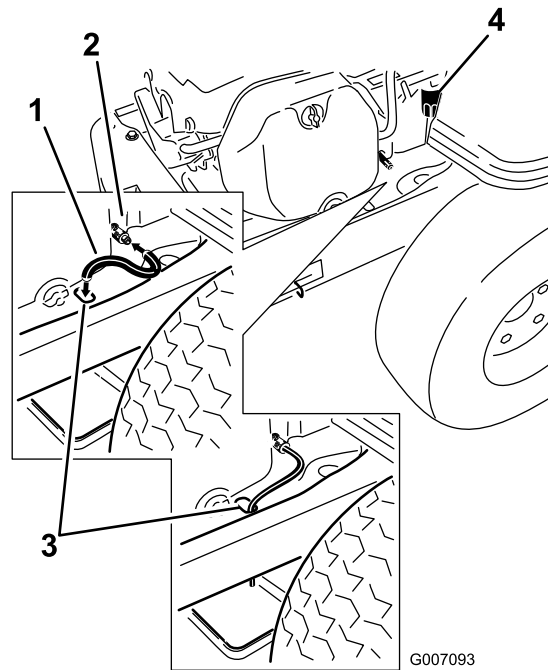

Figure 33
5. Locate the oil-drain hose, and slide it over the drain valve (Figure 33).
6. Place the opposite end of the oil-drain hose over the end of the frame (Figure 33).